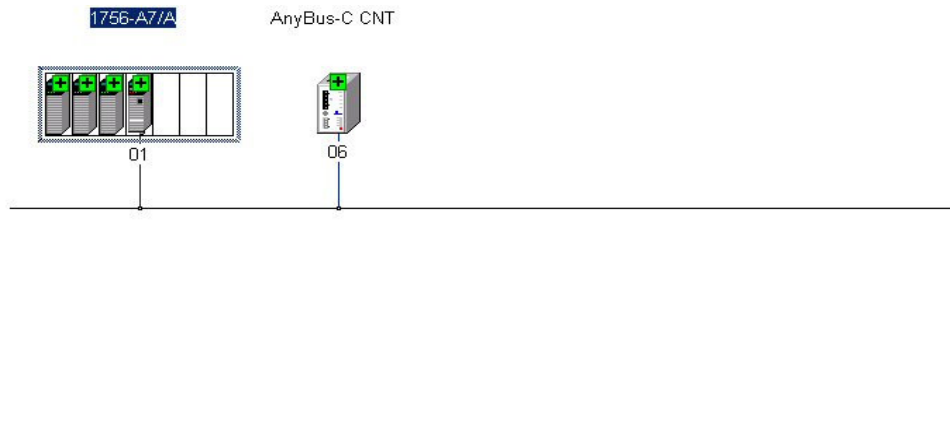

Figure 4
9. The next (and easiest) thing to do here is to scan the network and collect all of the attached devices. From the Network menu, select Online. RSNetWorx will now scan the network for attached devices. A visual diagram will appear with “+” signs above each module. This indicates that the device exists as part of the network configuration but has not been saved as part of the configuration file. This is shown in Figure 4.